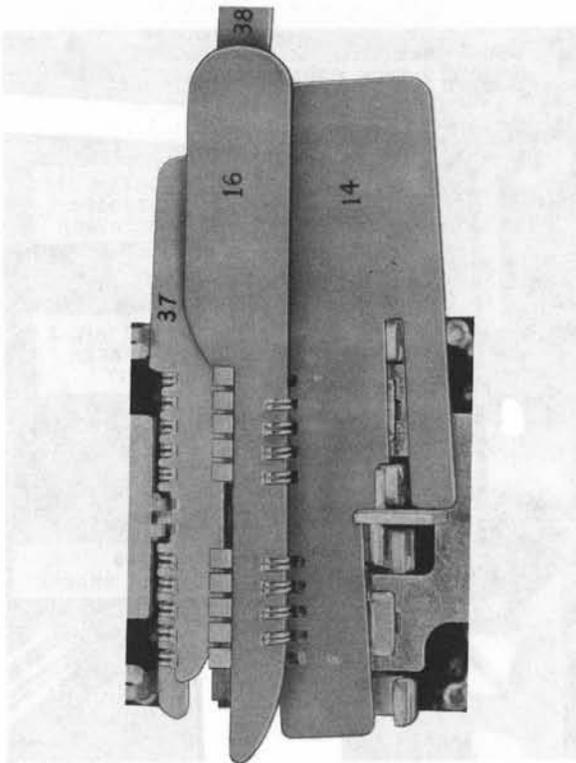

Fig. 11—Cards Removed
3.19 Using the KS-6320 orange stick, hold down the armature in the unoperated position and with the KS-8511 tweezers, disengage the cards from the armature leg notches and remove the cards. See Fig. 11.